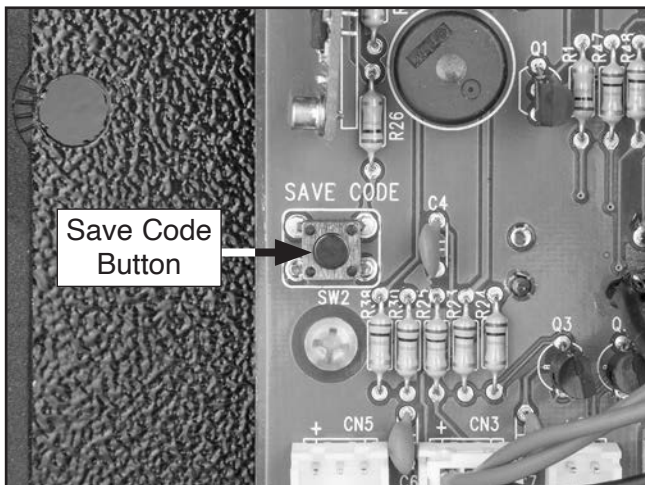

Figure 65. Location of SAVE CODE button on control panel circuit board.
2. Press and hold SAVE CODE button on circuit board (see **Figure 65**) until it beeps.